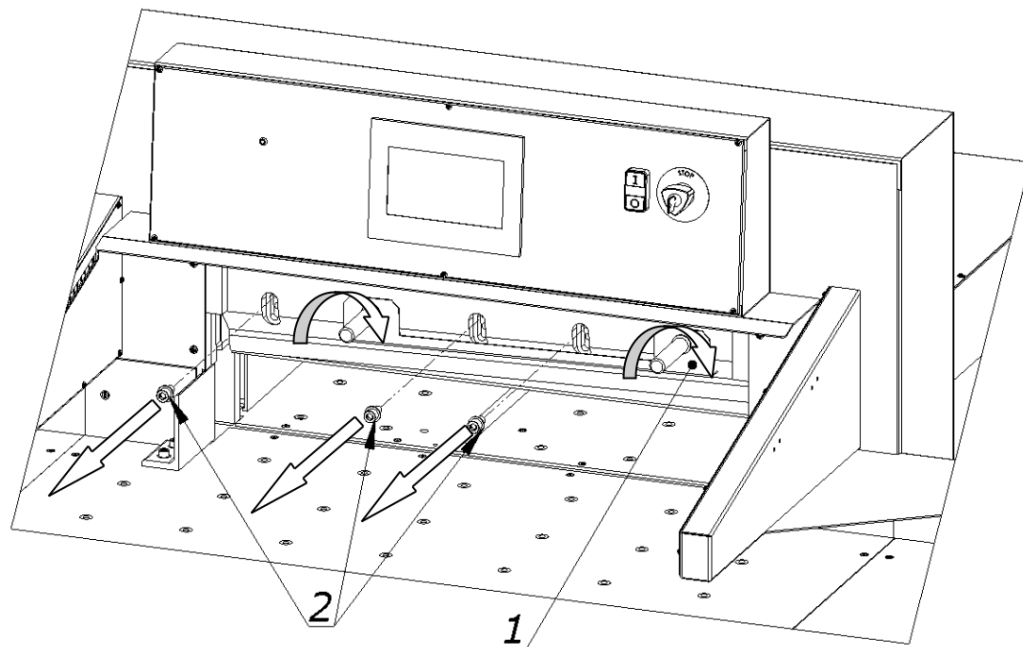

Figure 26.
8.1.1.10 Unscrew and remove the screws (2, fig. 26)